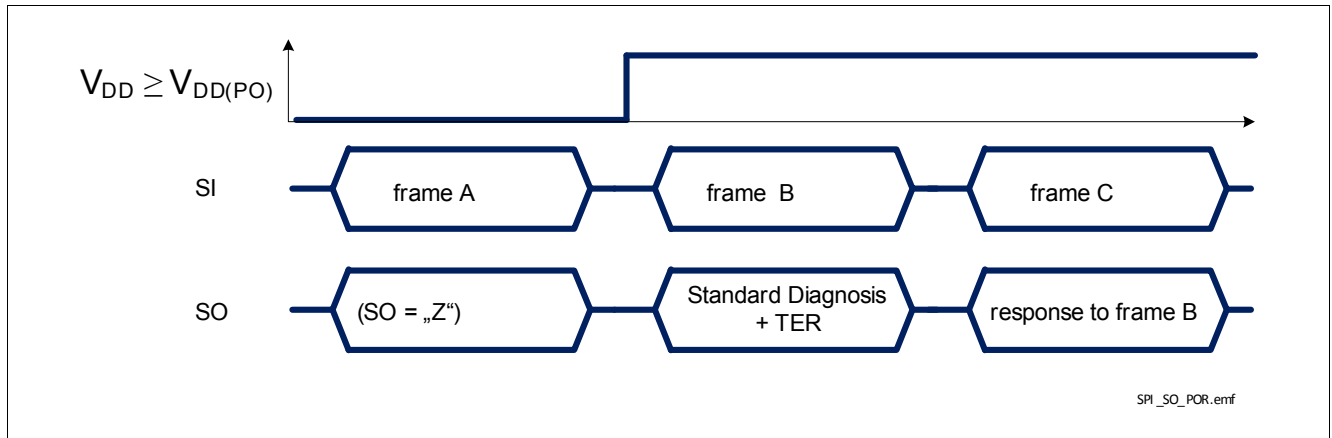

Figure 9-9 BTS54040-LBA response after coming out of Power-On reset at V_{DD}
- when BTS54040-LBA logic supply comes out of Power-On reset condition, as shown in Figure 9-9